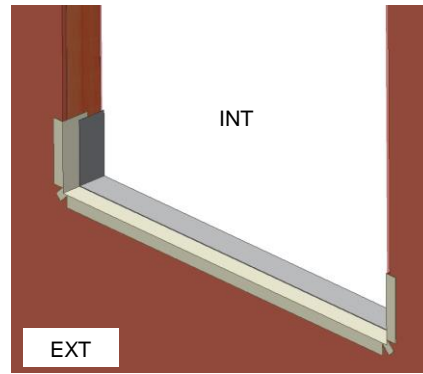

Fig. 7
- P.** Flashing tape must cover the entire sill plate. If needed, apply an additional flashing piece over the first one (start from the exterior and work toward the interior). Maintain a minimum 1" overlap. (Fig. 7)